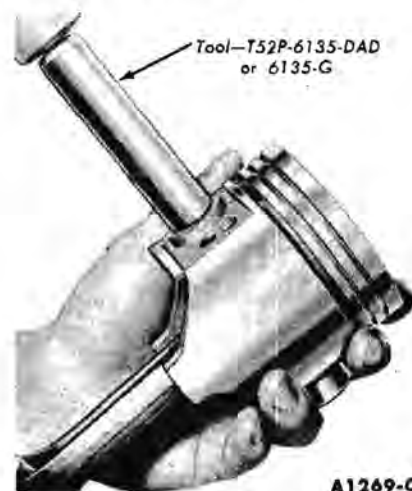

FIG. 45—Piston Pin Removal
2. Remove the piston rings. Remove the piston pin retainers. Drive the pin out of the piston and connecting rod (Fig. 45). Discard the retainers.